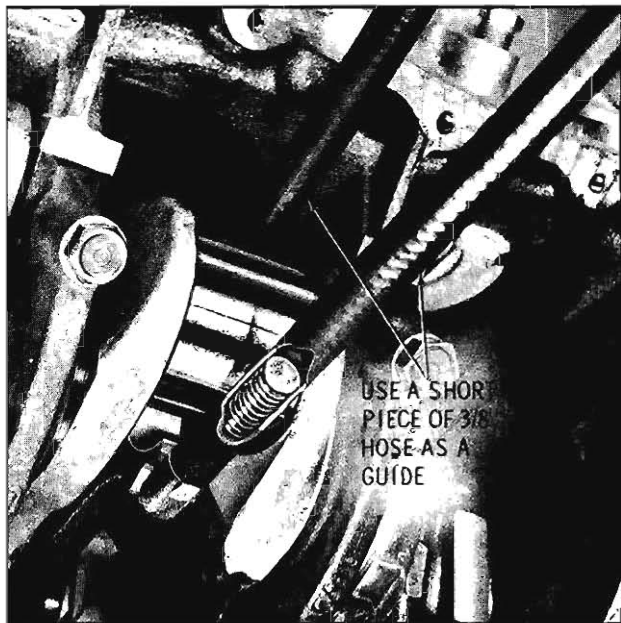

Fig. 3-425 Connecting Rod Bolt Guides
5. Install guide hose over threads of rod bolts. This is to prevent damage to bearing journal and rod bolt threads. (Fig. 3-425)
1. Install connecting rod bolt guide hose over rod bolt threads. (Fig. 3-425)